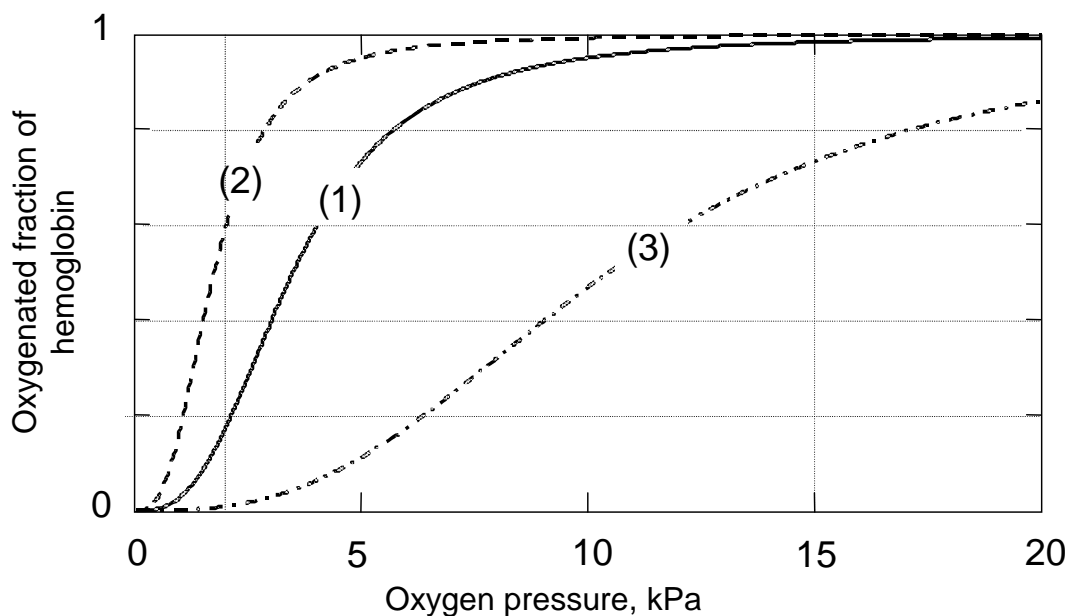

Figure 1
Each Hb molecule can take up four molecules of O₂. Blood in contact with O₂ absorbs a fraction of this amount, depending on the oxygen pressure, as shown in Figure 1 (curve 1). Also shown are the curves (2) and (3) for blood with two kinds of deficient Hb. These occur in patients with certain hereditary diseases.
- 1.2 Estimate from Figure 1 (to 2 significant figures) how many moles of O_2 are deposited in muscle tissue when one mole of Hb travels from the lungs to the muscles and back again for the three different types of Hb.